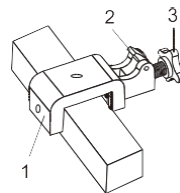

Fig. 6a
The C-clamp that holds the hang bar rod can be mounted either horizontally or vertically (Fig. 6a & 6b).
1. To open the clamp (1), pull back on the quick release lever (2) and pull outward on the clamp knob (3).
2. Clamp the C-clamp onto a work table (horizontal surface) or other appropriate vertical surface by pushing inward on the clamp knob. Complete the tightening process by turning the clamp knob clockwise (Fig. 6a & 6b).